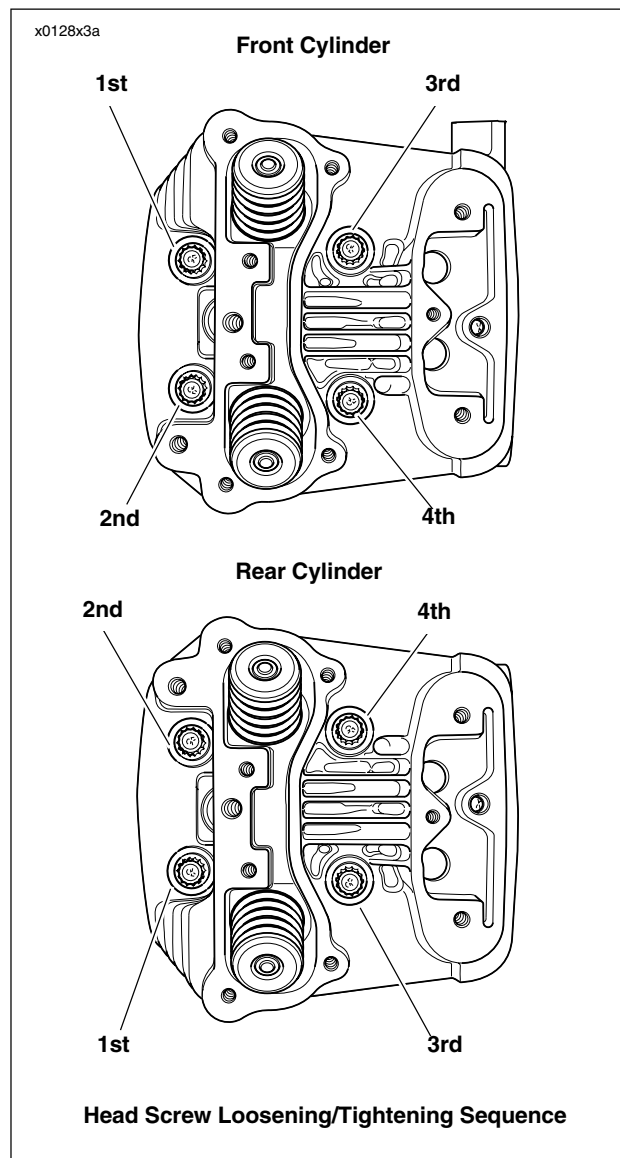

Figure 3-87. Head Screw Loosening/Tightening Sequence
7. See Figure 3-87. For each cylinder head, start with screw numbered one, as shown. In increasing numerical sequence (i.e. – 1, 2, 3 and 4):